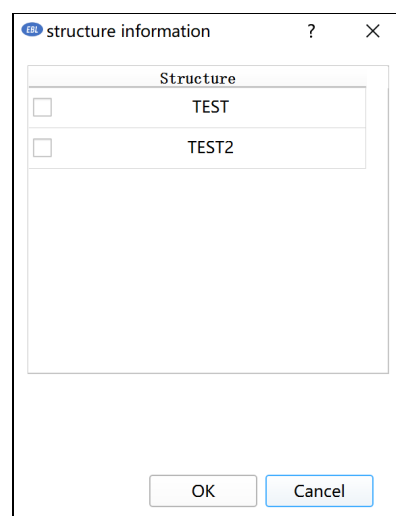

Figure 2.8.5 Select structure
- 9) You can click "Structure" at the top right to display the energy deposition of any structure (Figure 2.8.5), and the first structure is displayed by default. Multiple structures cannot be selected.